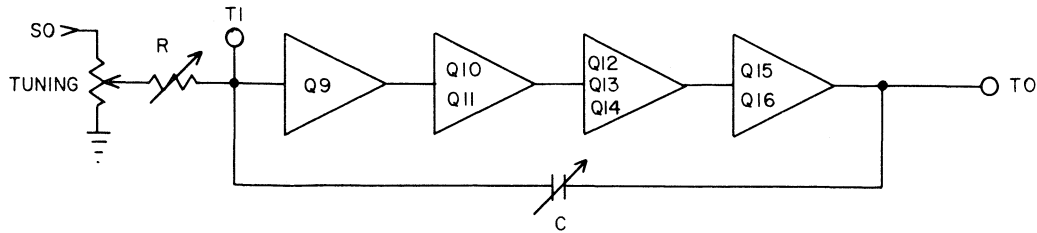

Figure 3. Triangle Generator
4.2 TRIANGLE GENERATOR (See Figure 3)